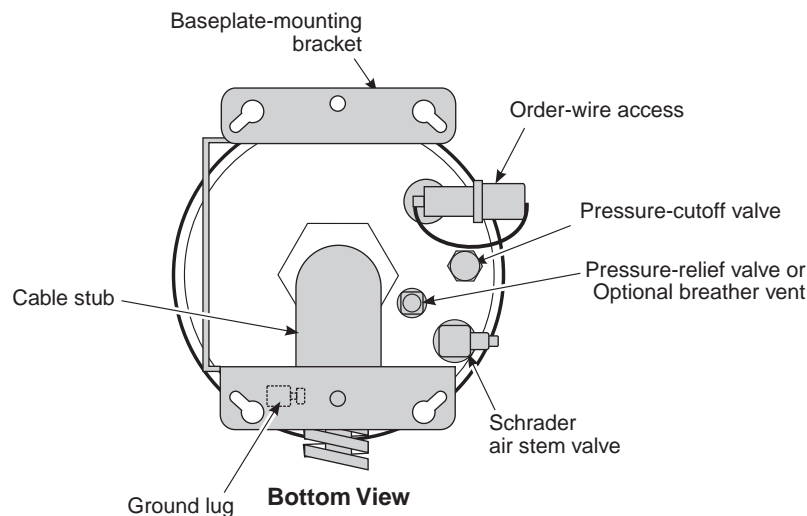
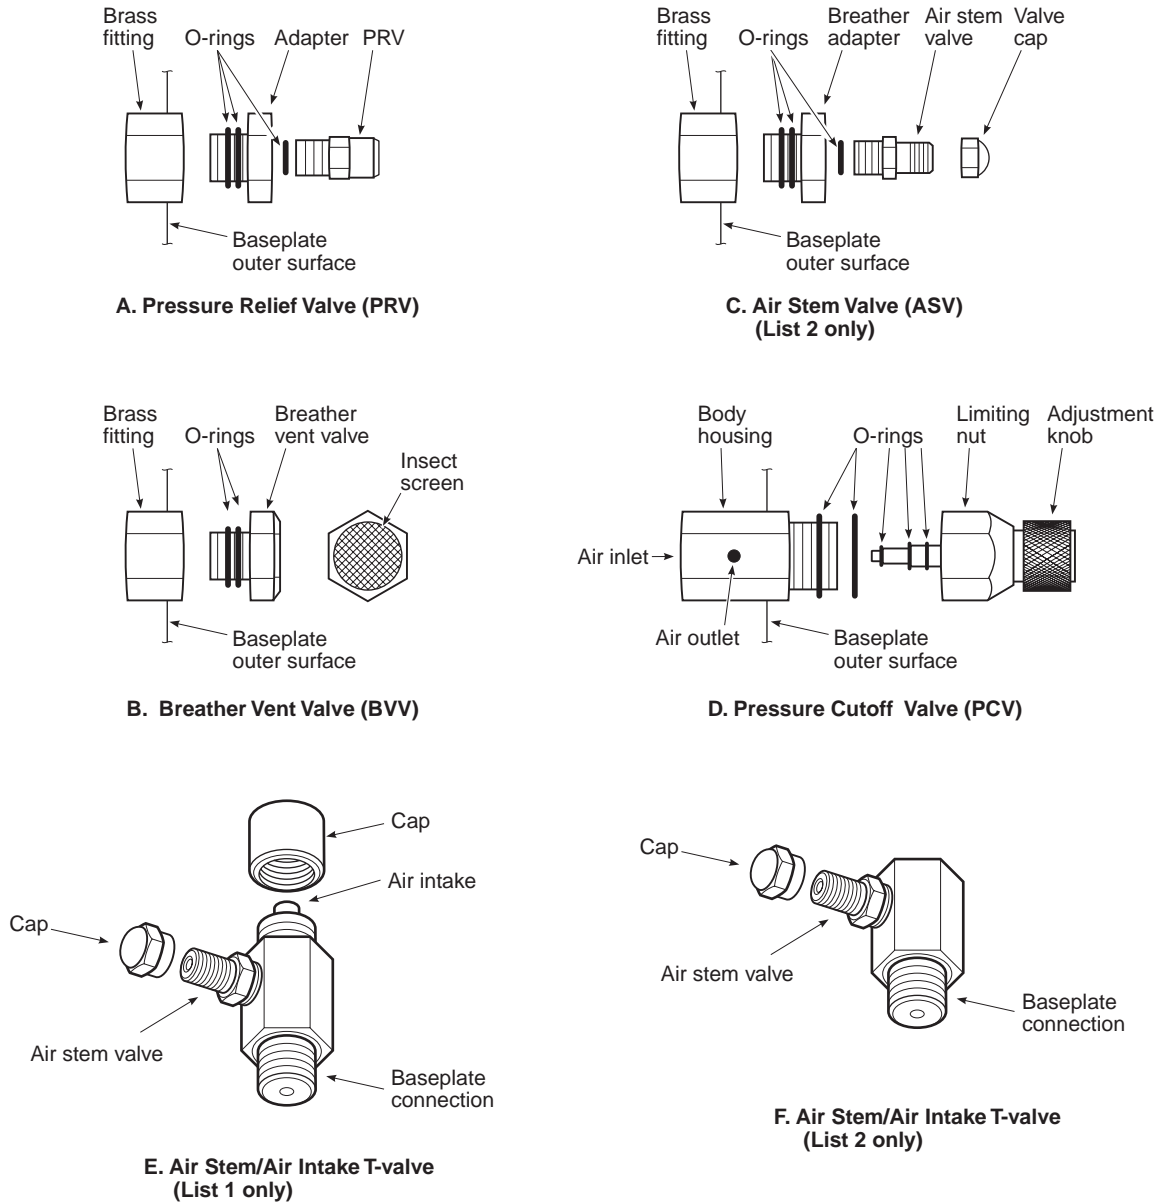

Figure 2. HRE-712 List 2 Remote Air-Filled Enclosure
Figure 3. Metal Valves
- The HRE-712 List 2, shown in Figure 2 on page 3, contains an air-core stub and is intended for underground installations. It can be pressurized from the main feeder cable through its air-core stub. The pressurization prevents the enclosure from flooding when mounted in underground manholes. Both enclosure models are similar in that they have primary gas-tube surge protection on all cable pairs. In addition, if you prefer not to pressurize the enclosure, you can use the optional breather-vent to allow it to breathe.
The air-filled cable stub on the HRE-712 List 2, shown in Figure 2, is equivalent to an ALP FTS-PIC air-core telephone cable. Table 2 on page 24 provides a complete description of the cable stub.
A pressure gauge can be attached to the air-stem valve for the purpose of measuring the internal pressure of the enclosure. The air-stem valve is also used to relieve the internal pressure prior to opening and removing the dome cover when pressurized through the stub. This can be done by pressing down on the valve's center pin. Figure 2 on page 3 and Figure 3 on page 5 show the air-stem valve and pin locations.